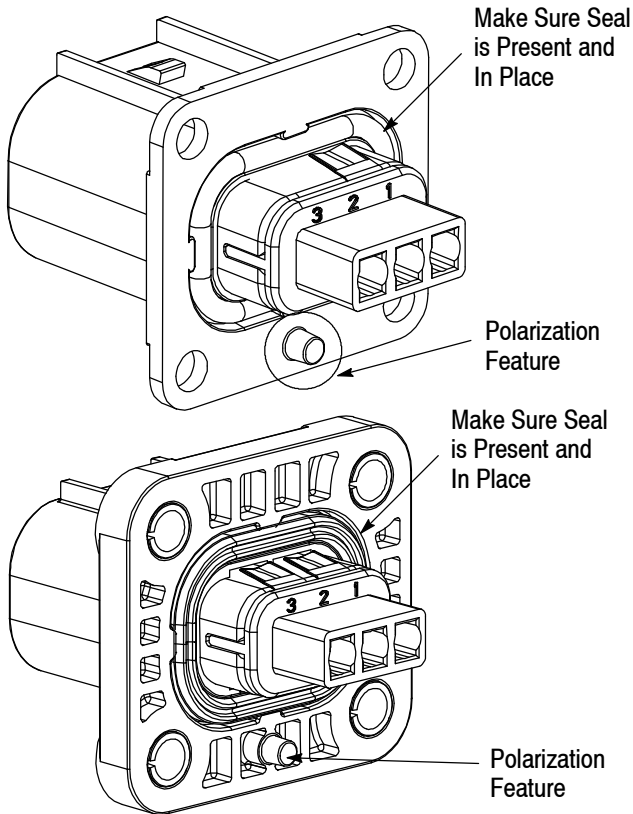

Figure 2
1. Note the polarization feature located on the back side of the header as shown in Figure 2.